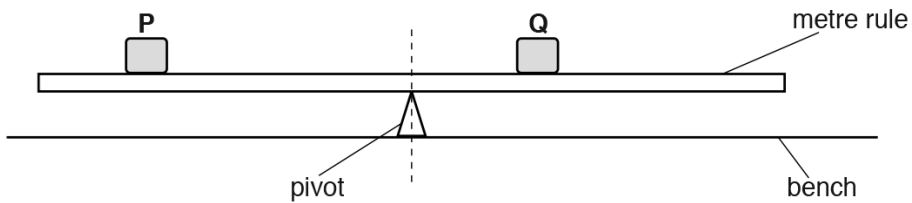

Fig. 1.1
Fig. 1.1 shows the apparatus.
- (i) On Fig. 1.1, measure the distance x from the centre of load **P** to the pivot.
- (ii) On Fig. 1.1, measure the distance y from the pivot to the centre of load **Q**.
- (iii) Fig. 1.1 is drawn 1/10th full size.